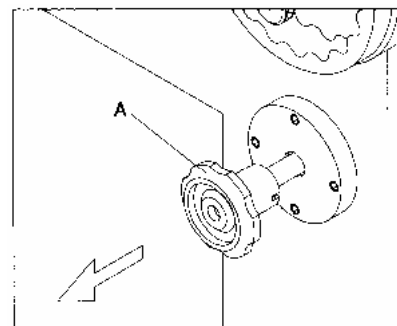

Fig. 3.10
1. To position the spindle in “loose spindle” (where the spindle will rotate freely), pull out knob (A) Fig.3.10, and turn it clockwise. The knob (A) will then be latched in “loose spindle”. Fig.3.10 illustrated the knob (A) pulled out in the loose spindle position.
1. To position the spindle in “loose spindle (where the spindle will rotate freely), turn knob (A) Fig. 3.10, and push in to the loose position.
2. To engage the spindle lock, pull out knob (A) and turn spindle by hand till the spindle is locked, and then turn knob. The knob will then be latched in “locked spindle”.